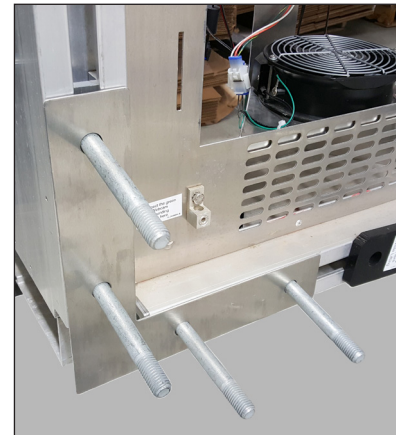

Figure 25: Webcam Bolting Template
5. Place the bolting template over the bolts in the channel. The bolting template is important as it makes mounting the arm assembly easier. Refer to **Figure 25**.